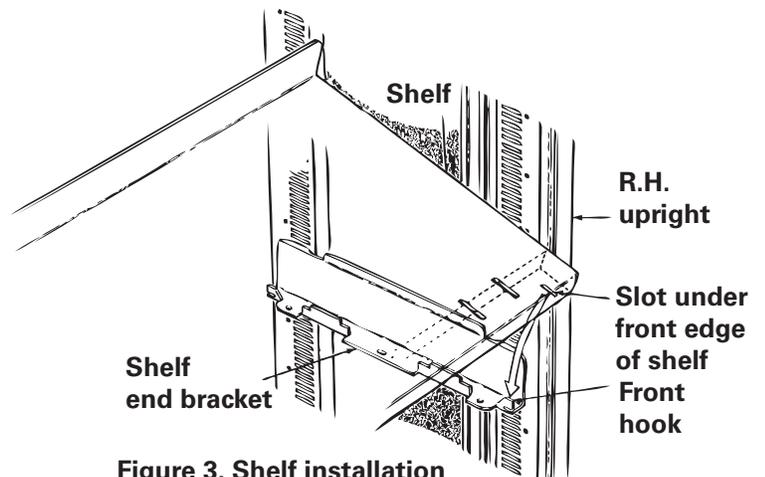

Figure 3. Shelf installation
3. Next install the shelf (see figure 3). Tilt the rear of the shelf up approximately 30° and engage the slot under its front edge with the front hook on each end bracket. Then push the shelf toward the rear of the cabinet and lower it to a horizontal position.